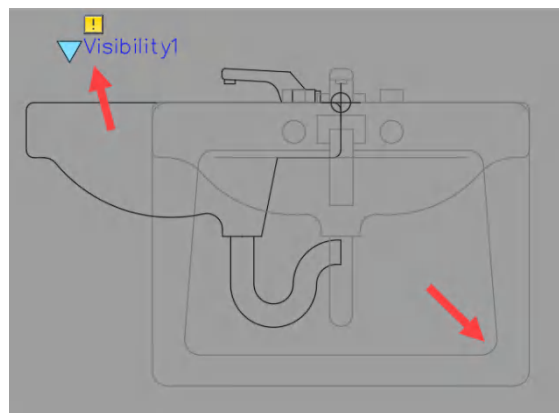

Figure 12.30: The visibility state with the side view visible
15. Once you click the icon, the two blocks will be deselected and displayed grayed out due to the `BVMODE` system variable being set to `1` earlier. This is shown in *Figure 12.30*.